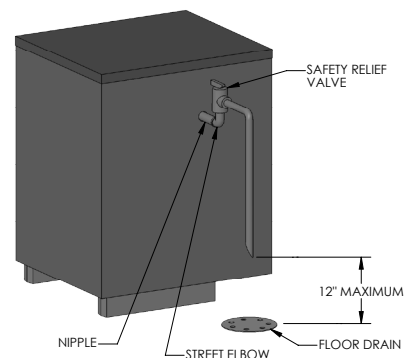

Figure 6.6: Relief Valve Piping Water Boiler
- a. Pipe the boiler relief valve into the 3/4" tapping on the left side of the boiler as shown in Figure 6.6. Be sure that the relief valve is sized in accordance with local code requirements. In addition, be sure that the relief valve is designed constructed and stamped in accordance with ASME Boiler and Pressure Vessel Code, Section IV.